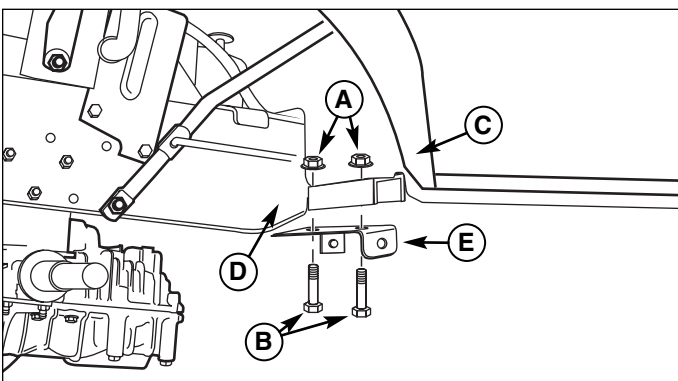

Figure 3. Bracket installation
3. Install bracket (E, Figure 3) using new 5/16-18 x 1-3/4 capscrews (B) and new 5/16-18 locknuts (A).